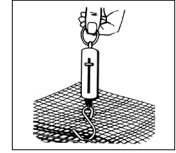

FIGURE 5
- ▶ Insert the hook of a spring balance under the center of the GlasGrid sample (Figure 5).